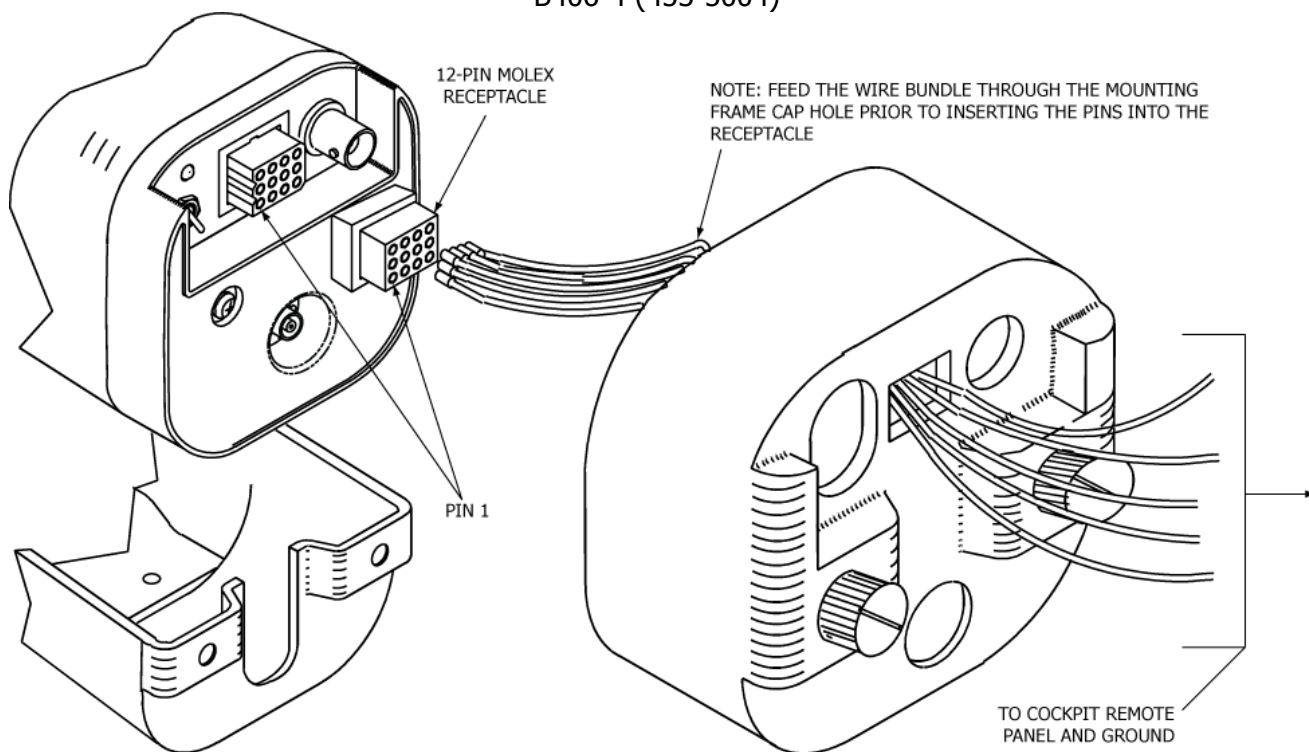

Figure 20 Remote Switch Panel Harness Wiring at ELT End
- 2) Feed the harness wires on the ELT end through the mounting frame cap assembly (452-5052). See Figure 20 Remote Switch Panel Harness Wiring at ELT End on page 55.